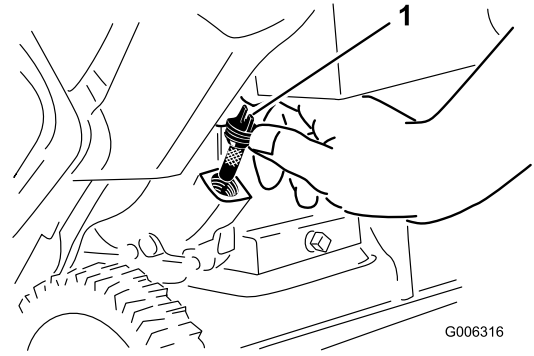

Figure 27
6. Clean around the oil-fill cap (Figure 27).
7. Unscrew the oil-fill cap and remove it (Figure 27).